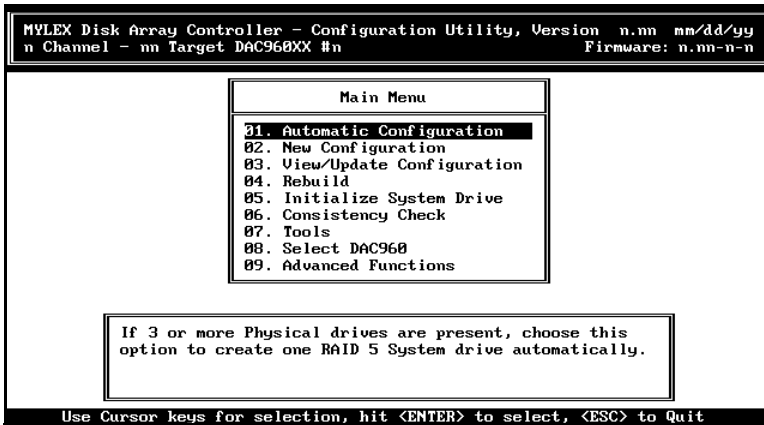

Figure 2-12. Automatic Configuration Option
1. Select **Automatic Configuration** from the Main menu (Figure 2-12).